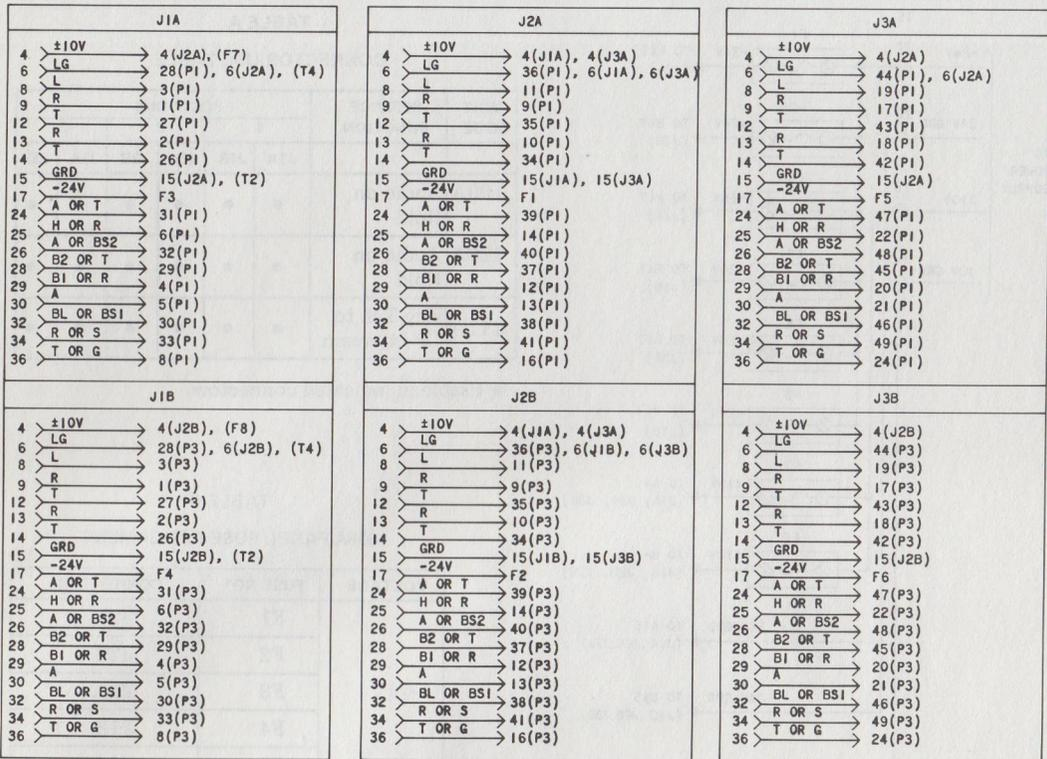

Fig. 6—Connections For Jacks J1 to J3
2.07 The six 914A connectors are factory-wired to two 50-pin KS-16671, List 1 plugs on the rear of the panel. P1 provides in and out connections for the A connectors (upper row) and P3 provides connections for the B connectors (lower row). Fig. 6 shows the connections for connectors J1 through J3, A and B. Fig. 7 shows the connections to plugs P1 and P3.
4.03 Refer to Fig. 6 for connections to A and B connectors.